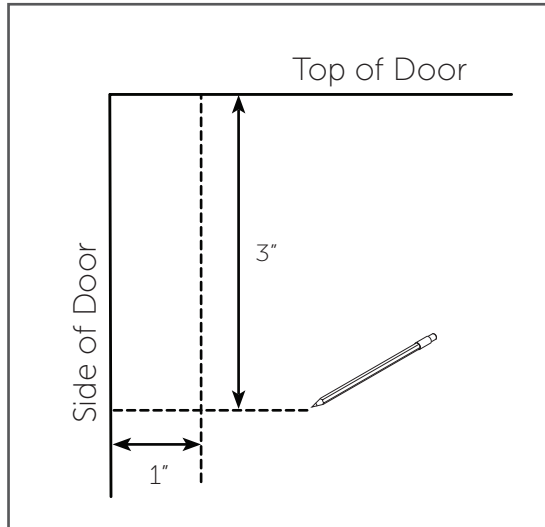

Figure 1
1. Lay the door face up on a smooth, level surface. Measure and mark 1" from the side edge of the door. Measure and mark 3" from the top edge of the door ensuring lines from both measurements intersect (Figure 1).